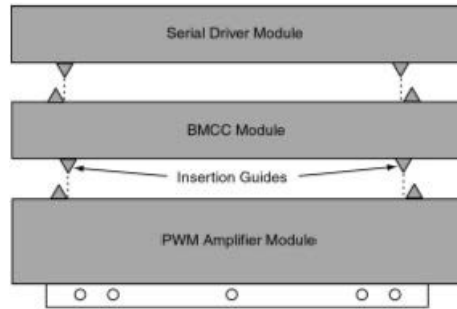

Figure 9 - BMCC Insertion Guides
1. Align the BMCC's two (2) lower insertion guides so that they are on the inside of the bearing PWM Amplifier's two (2) upper insertion guides. See Figure 9.
1. Carefully align the Serial Driver on top of the BMCC. See Figure 9.